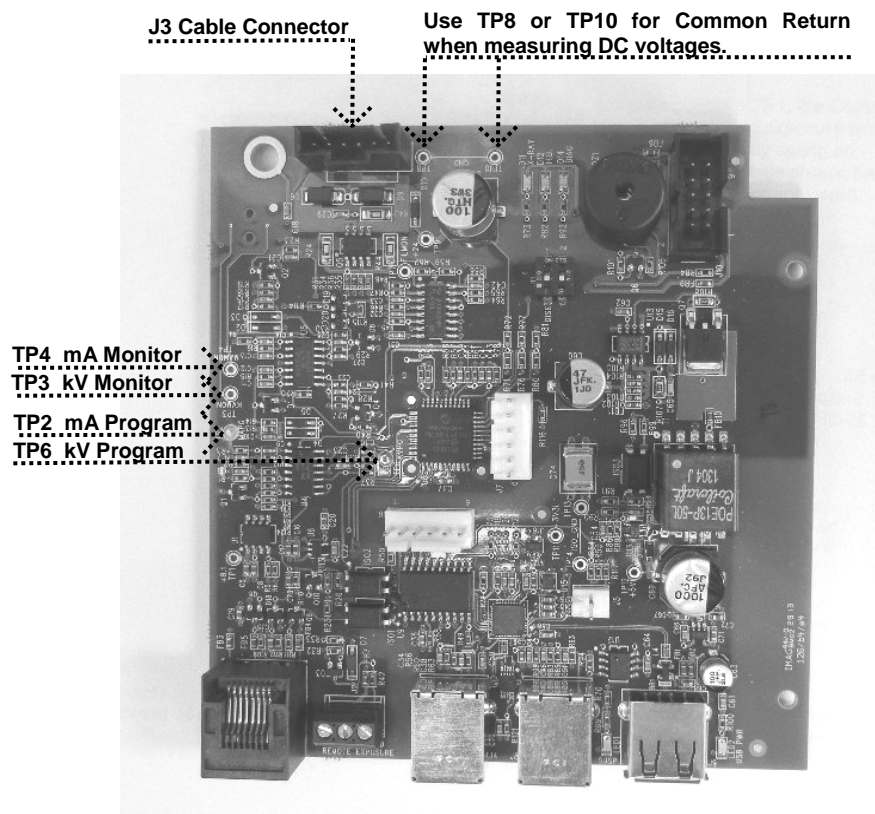

Figure 65
3. If the cabling is found acceptable, select 1.5 seconds of exposure time, and placing a DC voltmeter on TP8 or TP10, the Common Return on the Logic Board, measure the feedback values at TP4 mA Monitor and TP3 kV Monitor, as shown in *Figure 65*. Look for the following values:
1. On the Logic Board, place a voltmeter on TP8 or TP10, the Common Return, and TP6, kV Program, as shown in *Figure 65*. Compare measurements to the following chart (volts DC).
2. To evaluate the feedback voltages that represent the measured kV within the system, compare the observed values in the table below. To properly observe these values, select 1.5 seconds of exposure time and measure the DC voltages during the exposure only. This measurement is made across TP8 or TP10, the common return and TP3, the kV Monitor, as shown in *Figure 65*.
1. On the Logic Board, place a voltmeter on TP8 or TP10, the Common Return and TP2, mA Program, as shown in *Figure 65*. Compare measurements to the following chart (volts DC).
2. To evaluate the feedback voltages which represent the measured mA within the system, refer to the table below; select 1.5 seconds of exposure time and measure the DC voltages during the exposure only. This measurement is made across TP8 or TP10, the Common Return, and TP4, the mA Monitor, as shown in *Figure 65*.